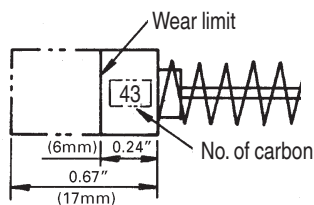

Fig. 9
2. Inspecting the carbon brushes (Fig. 9)
Use metabo HPT carbon brush No. indicated in Fig. 9.